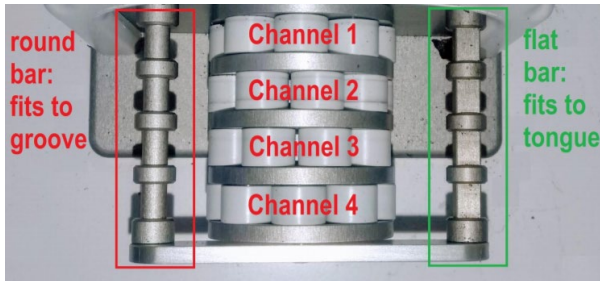

Fig. 6 | Detail view of pump head, Note the different types of bars.
7. Put the cassette onto the pump head by placing the groove onto the left-hand side bar of the desired channel. (Fig. 6)
4. Click on the gear icon in the lower right-hand corner of the head you want to calibrate. See Fig. 6 for the channel numbers.